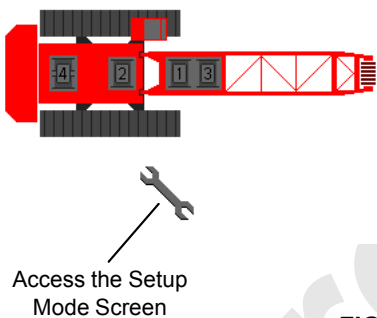

FIGURE 3-29
2. Scroll to and enter the setup mode screen (Figure 3-29).